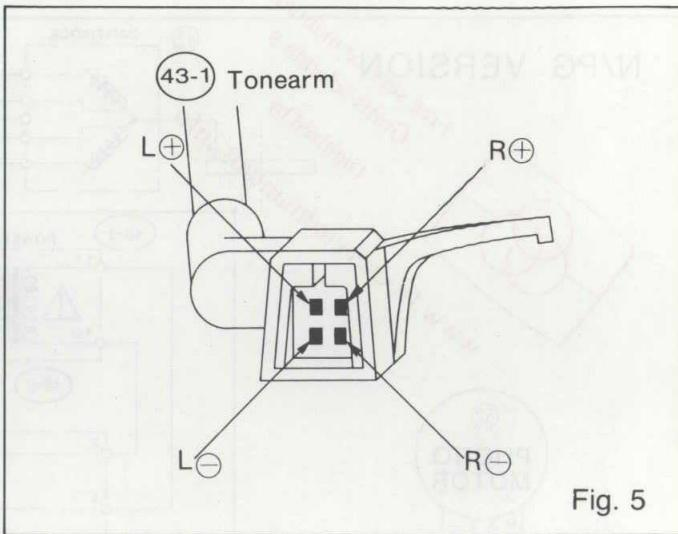
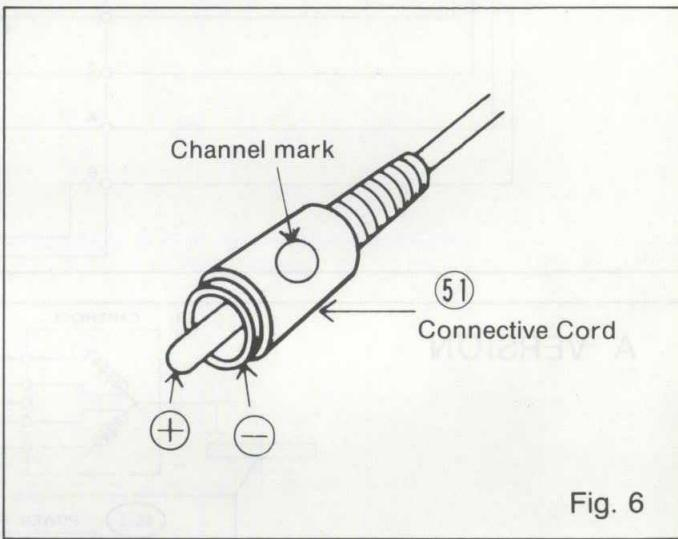

Fig. 5
Fig. 6
– Removing Cartridge (42), touch the upper two terminals (L $\ominus$  and R $\oplus$ ) at the end of tonearm (43-1) with a metallic screwdriver and listen for the speaker to produce a humming noise (Fig. 5).
**Yes** : Cartridge (42) or Tonearm (43-1) lead-wires is defective
**No** : Perform continuity test between Tonearm (43-1) end and Connective Cord (51) on dead channel (Fig. 6).
**No** : Plug of connective Cord (51) or terminal is connected incorrectly. Perform continuity test of input terminal of amplifier or receiver.